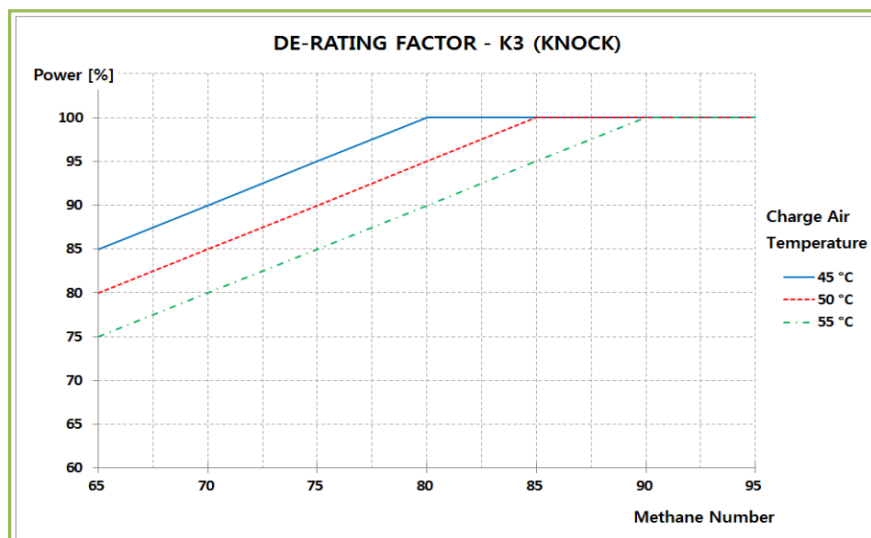

Figure 3. De-rating factor K3
Knock is a representative abnormal combustion and damages parts in the cylinder. If knock is occurred by site conditions, service power reduction is inevitable. Methane number (MN) of the gaseous fuel effects on a tendency of the knock combustion. Lower MN increases a knock combustion, which means to be de-rated. A charge air temperature to the combustion chamber is also related to the knock property. Higher temperature causes a de-rating due to knock. These characteristic is expressed as the factor of K3, see Figure 3.